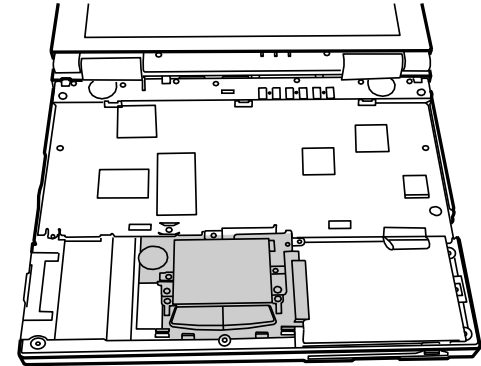

Figure 5-29. Removing the Touch-pad Board
1. Fit the touch-pad board into place.(fig 5-29)
4. Replace the touch-pad board by plugging the connector.(fig 5-29)